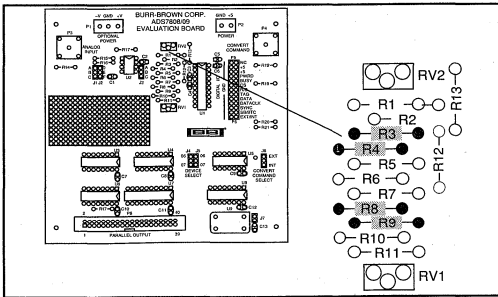

FIGURE 8. Factory Setting for Step 3.
B) To adjust offset, install the proper potentiometer and resistors, ground the input, then adjust the pot accordingly (see Table II and Figure 8).
C) To adjust gain, install the proper potentiometer and resistors, then adjust the pot accordingly. Do this for +FS and -FS (see Table II and Figure 8).